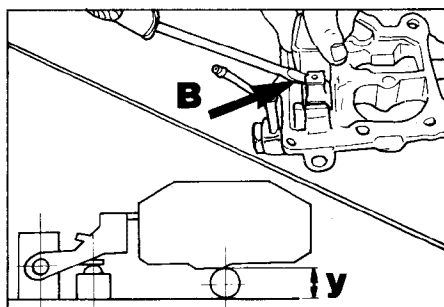

Fig. 7 Float raised position
- Allow float to rest on needle valve. Using a drill or gauge rod measure gap 'Y' between upper surface of float and float cover face (Fig. 7).